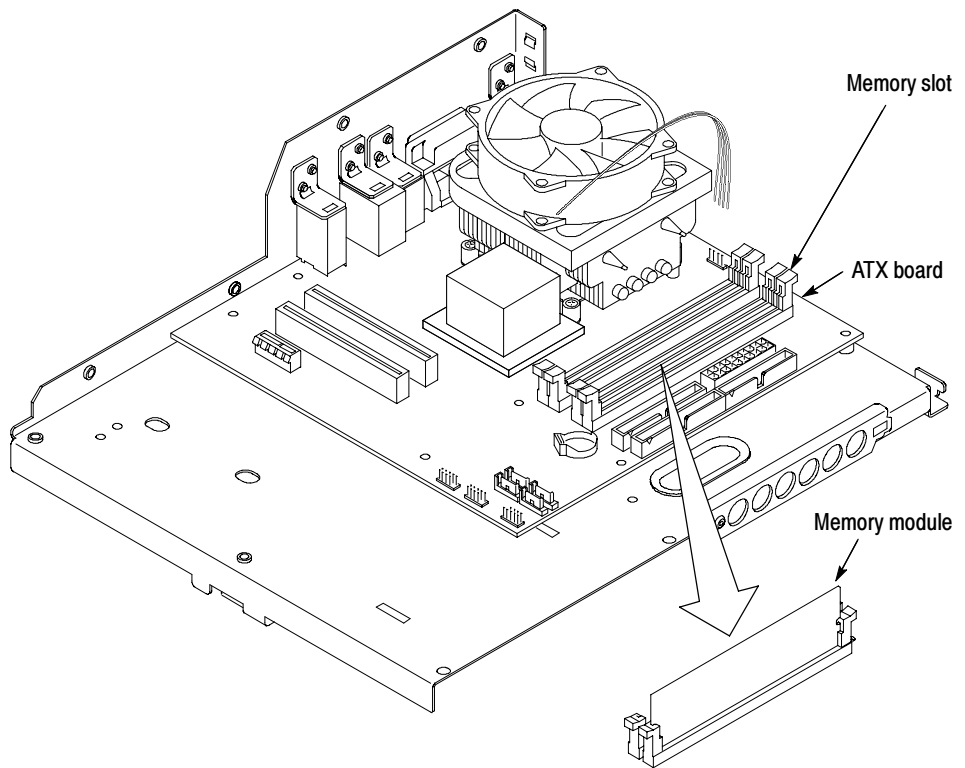

Figure 10: Memory slot location
1. *Locate the memory module slot.* See Figure 10 for the location of the memory slots.